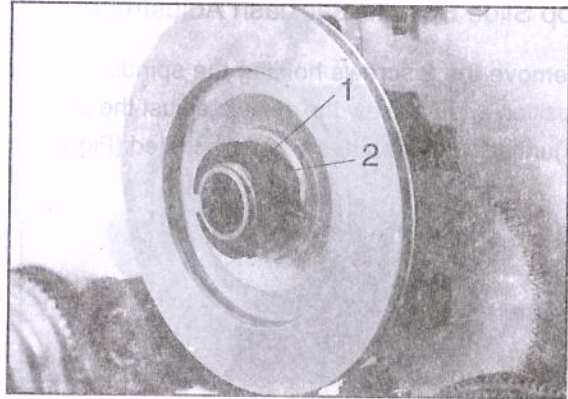

Fig.1
The main spindle bearings are correctly adjusted at the factory. If end play becomes evident after considerable use, the bearings can be adjusted by backing the grub screw (1) in the slotted nut (2) on the back end of the spindle and tightening the slotted nut until all end play is taken up, but still allowing the spindle to revolve freely. (Excessive preloading will damage the bearing). Tighten grub screw. (Fig.1)
Each slide is fitted with a gib strip which can be adjusted with screws (1) fitted with lock nuts (2) (Fig.1) the gib strip is adjusted with screws until the slide moves freely without play, after which the lock nuts are tightened.